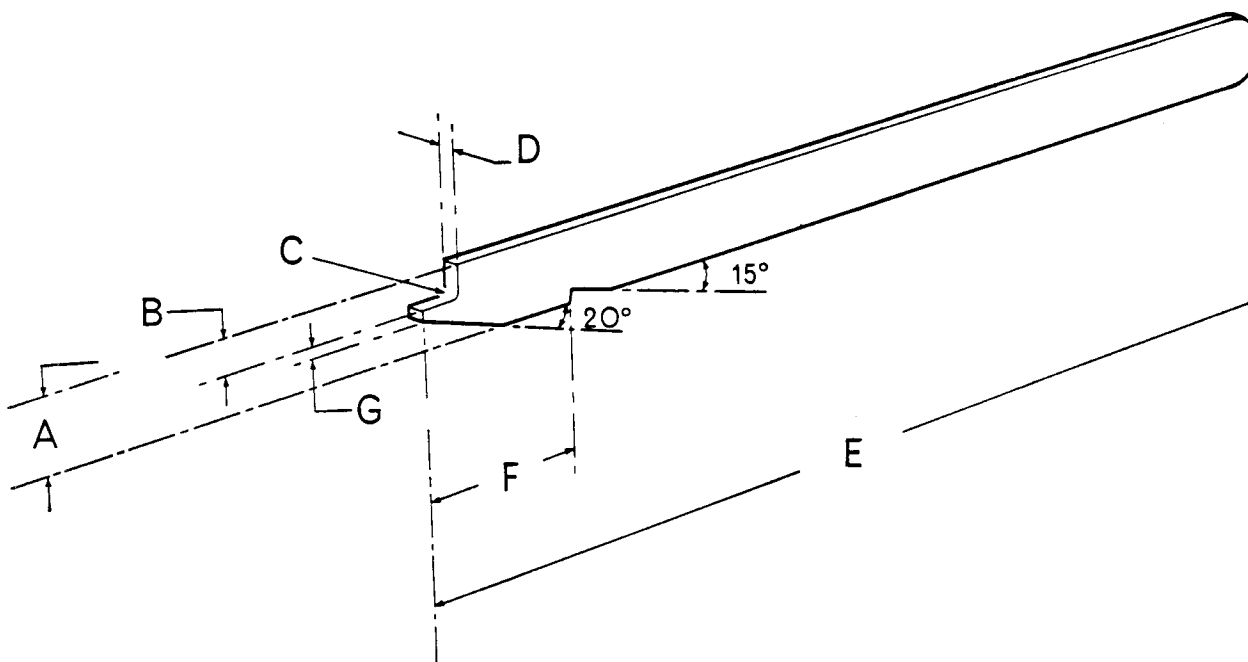

Figure 14. ANTI-RATTLE SPRING REPLACING TOOL
9. Refit the release lever anti-rattle springs. These are of the double coil type and quite strong. The easiest way of fitting them is to make a simple tool as shown in Fig. 14. If the pins attaching the release levers to the pressure plate lugs are removed, and the springs fitted in position, the tool can be rested against the cover bearing housing and used as a lever to push the release lever outwards, against the spring, until the retaining pin can be refitted.